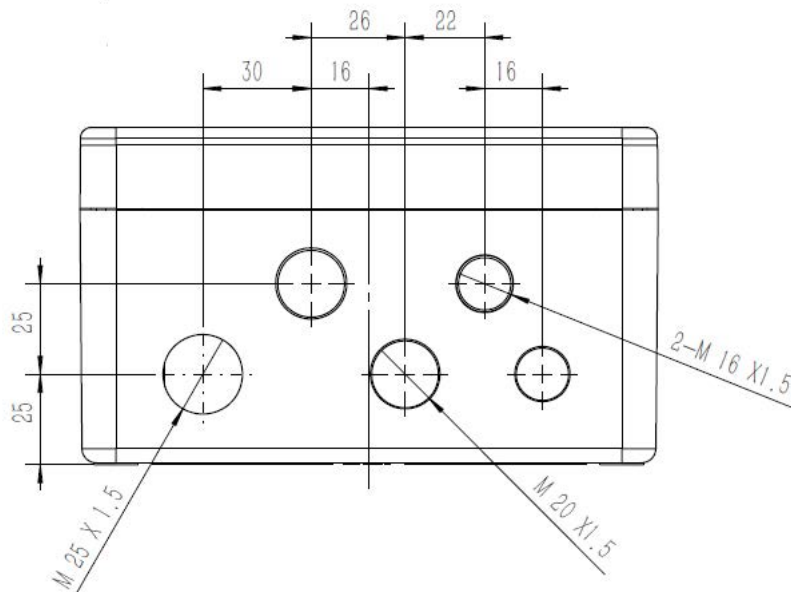

Fig. 3 The schematic of inlet wire gland
- 1) The layout of inlet wire gland is shown in the Fig. 3, from the left to right is the power supply (thread specification: M25X1.5), heating cable (thread specification: M20X1.5), heating cable (thread specification: M20X1.5. For constant wattage cable), Communication or alarm output (thread specification: M16X1.5) and sensor gland (thread specification: M16X1.5). The user shall select proper inlet wire Gland basing on the selected cables, it shall meet the Exe and Extb explosion-proof requirements and temperature range is $-40^{\circ}\text{C}\sim 85^{\circ}\text{C}$. The maximum exposure temperature of the power and signal cable is higher than 85°C .
5.1.As shown in the Fig. 3, the instructions for the Display and the Keys are as follows: